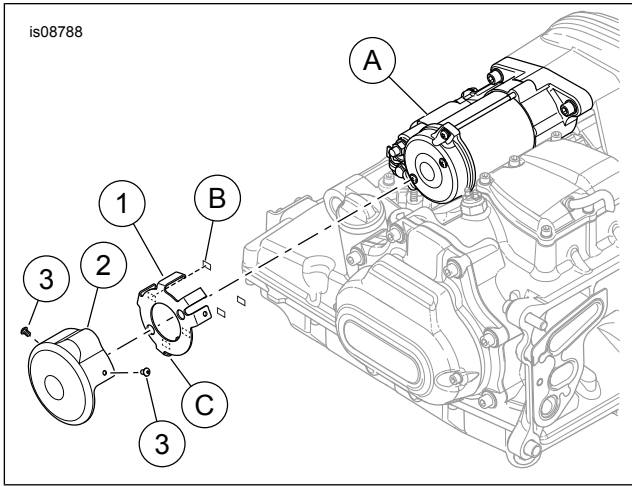

Figure 1. Service Parts, Touring Starter Cover
See Figure 1 and Table 1
1. See Figure 1. Remove three adhesive pad liners (C) from the inboard side of the cover mounting bracket (1).
2. Rotate the mounting bracket into approximate position, aligned with the starter motor (A) as shown.
3. Engage the lower tab (B) with the lower starter bolt lug. Rotate the bracket into position. Use a small pry bar to lift the tabs gently over the starter cap to prevent scratching.
4. Apply a few drops of Loctite 243 - Blue to the clean threads of the two button head screws (3).
5. Place the starter cover (2) over the cover mounting bracket, aligning the holes to the mounting tabs.